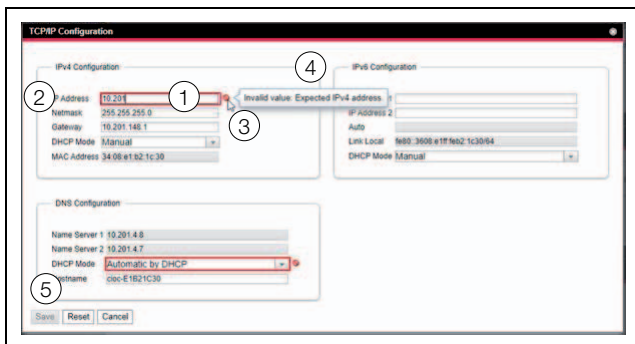

Fig. 116: Display of an incorrect entry
- A red "prohibited symbol" (fig. 116, item 3) appears after the incorrect entry (fig. 116, item 2) in the **Netmask** field (fig. 116, item 1)
- By holding the mouse pointer over the prohibited symbol, additional information about the error will appear (fig. 116, item 4).
- The **Save** button is deactivated (fig. 116, item 5), so that the current values cannot be saved.